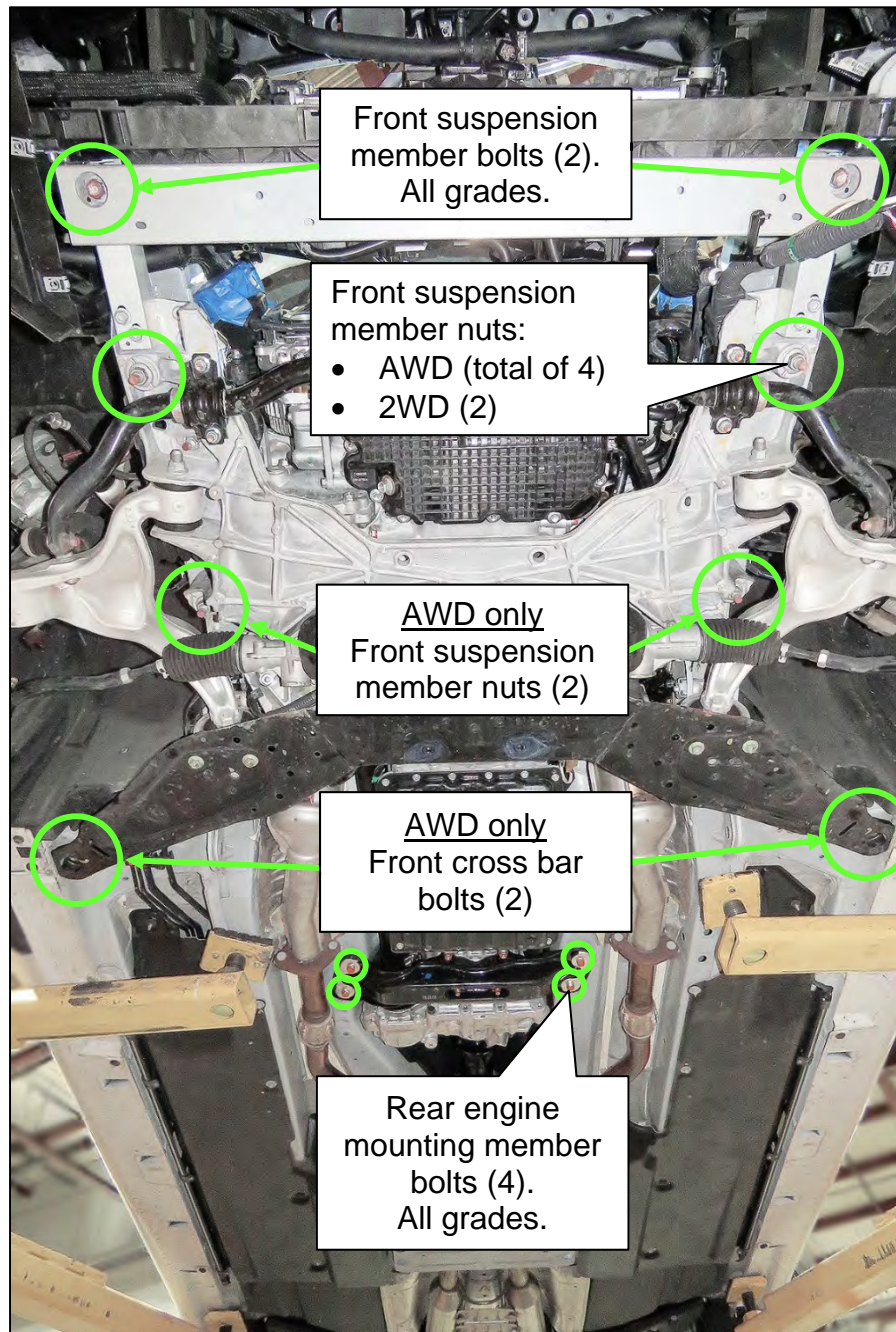

Figure 42
59. Remove the four (4) rear engine mounting member bolts (Figure 42).
60. Remove the front suspension member nuts and bolts indicated in Figure 42.
- AWD has a total of four (4) front suspension member nuts.
- 2WD has two (2) front suspension member nuts.
- Two (2) front suspension member bolts (both AWD and 2WD).
- AWD only: Two (2) front cross bar bolts.
**HINT:** Figure 42 is of an AWD vehicle. Nut and bolt locations are similar for 2WD.